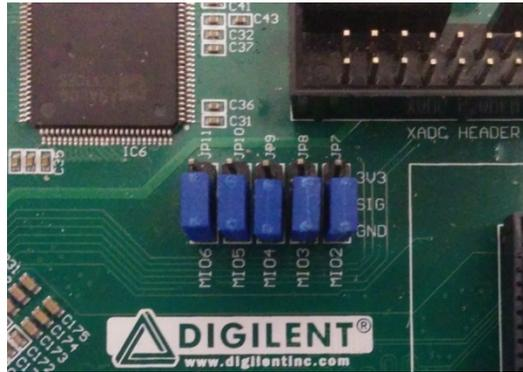

Figure 8 JTAG Mode Jumper Settings
2. Configure the ZedBoard boot source jumpers as shown in Figure 8 and remove the shunt on JP6.